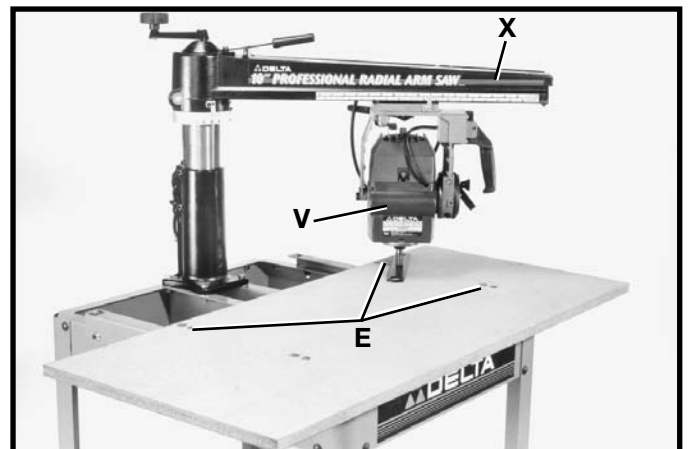
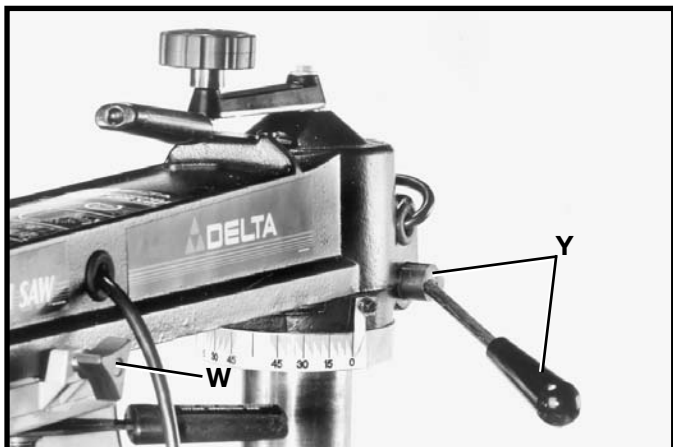
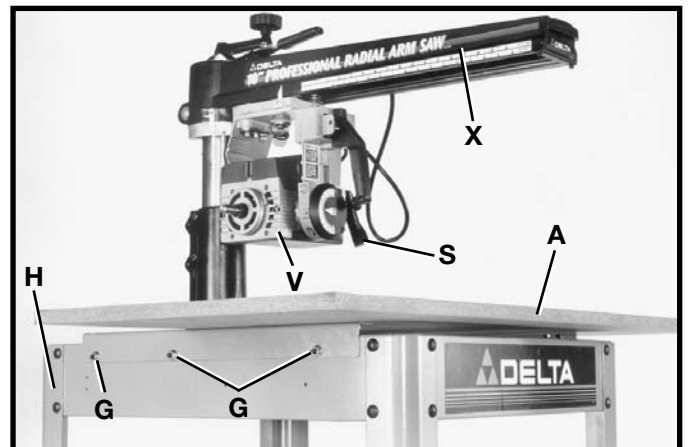

Fig. 26
Fig. 27
Fig. 28
12. Check the height of the table board above the other three table board adjustment screws (E) Fig. 26, by repositioning track arm (X), and cutting-head assembly (V) until the highest point of the table is determined. **NOTE: MAKE CERTAIN CUTTING-HEAD CLAMP KNOB (W) FIG. 27 AND TRACK ARM CLAMP HANDLE (Y) ARE TIGHTENED WHEN MOTOR SHAFT IS LOCATED ABOVE EACH OF THE ADJUSTMENT SCREWS. DO NOT CHANGE HEIGHT OF TRACK ARM (X) FIG. 26, UNTIL HIGHEST SCREW IS DETERMINED, AND ALL FOUR CORNERS OF THE TABLE BOARD HAVE BEEN ADJUSTED.**
13. Position the motor shaft back over the three lower corners of the table board and adjust the table adjustment screws (E) Fig. 26, until the arbor wrench fits accordingly between the arbor shaft and table board in each location.
14. Once the table board (A) Fig. 28, is properly adjusted, tighten three nuts (G) on each side of saw base (H). Then return track arm (X) and motor (V) to the 90 degree position as shown, and tighten bevel clamp lever (S) and track arm clamp handle (Y) Fig. 27.